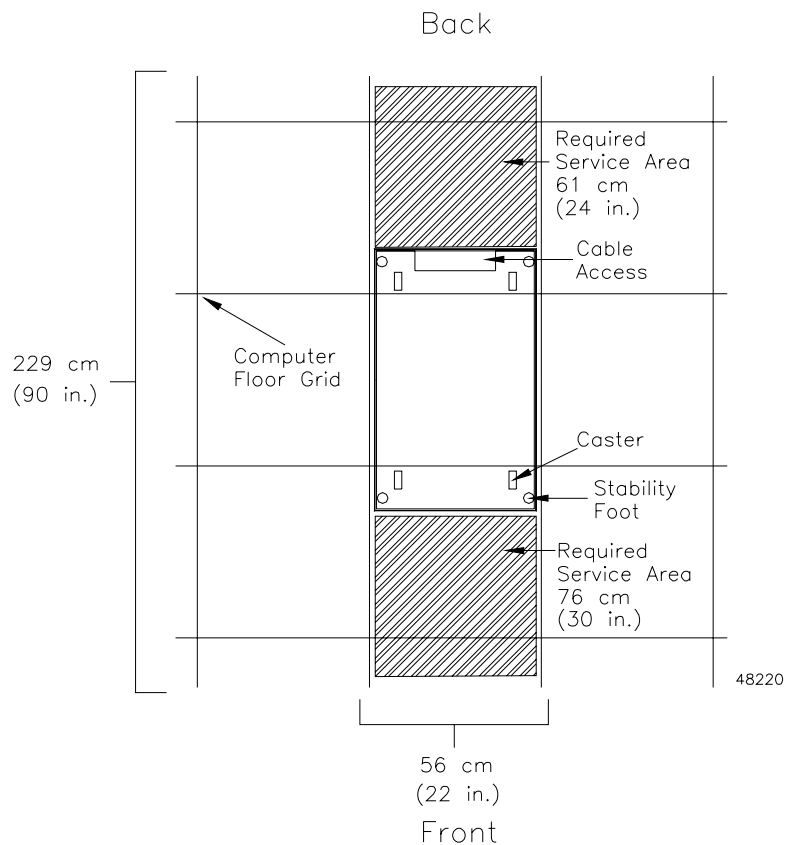

Figure 4 Cabinet Area Requirements
- Sufficient space to install and service the cabinet and components (Figure 4)